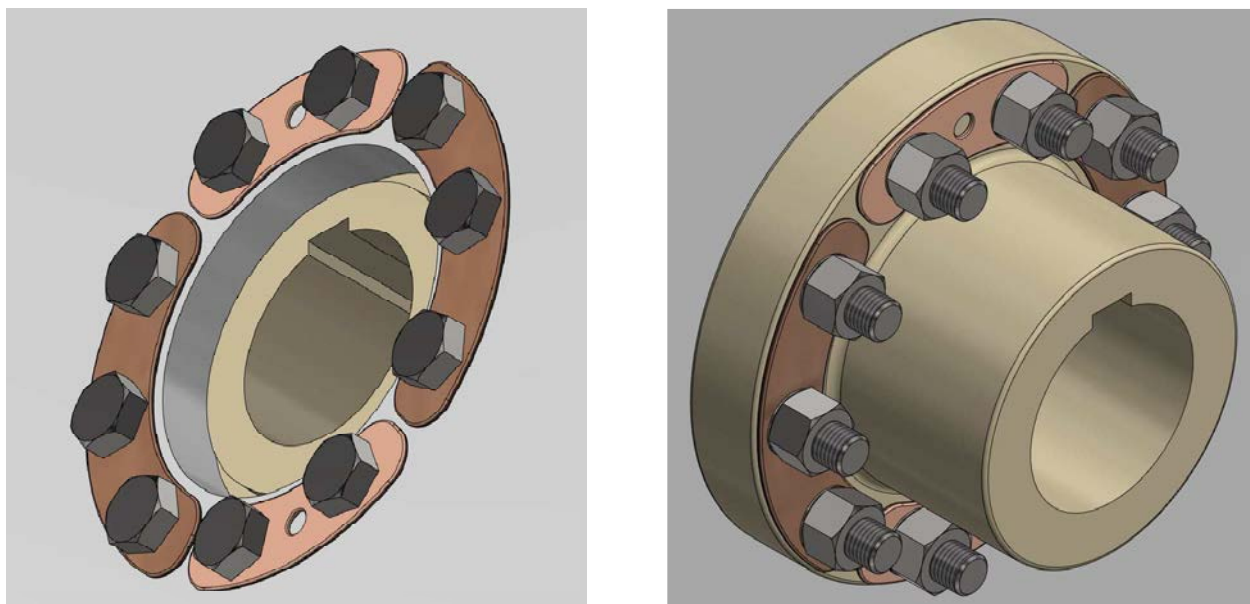

**Figure 2.17: special coating protective plates**
**ATTENTION:** in the case of special coating, the washers [6] can be replaced with special plates to protect the coating (given in figure 2.17) supplied by COFIMCO, if required.